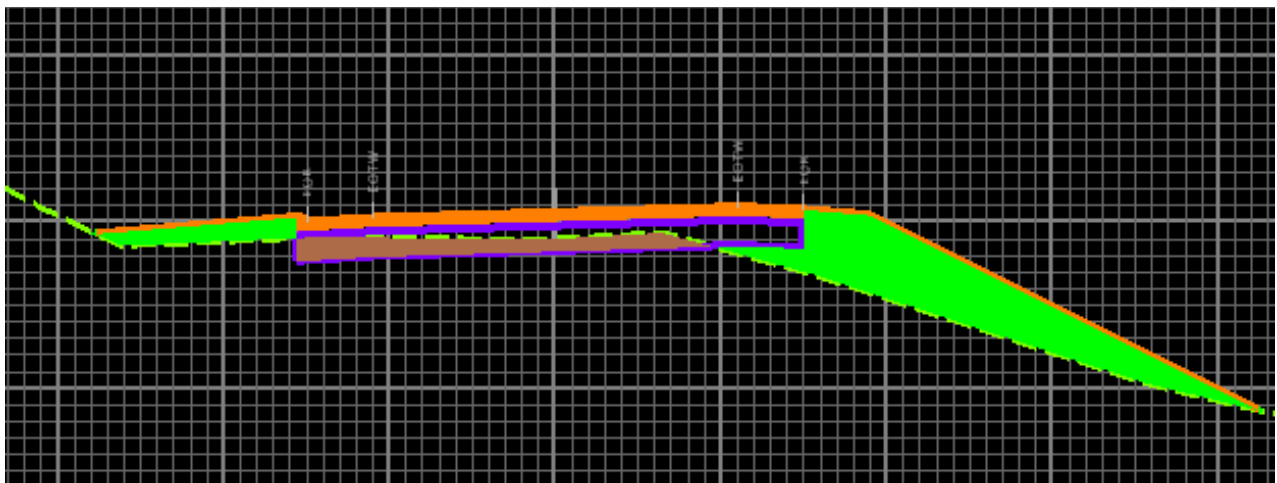

Figure 9-4 MicroStation Screen Shot of InRoads Generated Cut and Fill
- D. View the cross sections that have been created. The green shaded area represents fill, and the brown area represents the cut sections. Figure 9-4 shows the cross section with cut and fill sections.